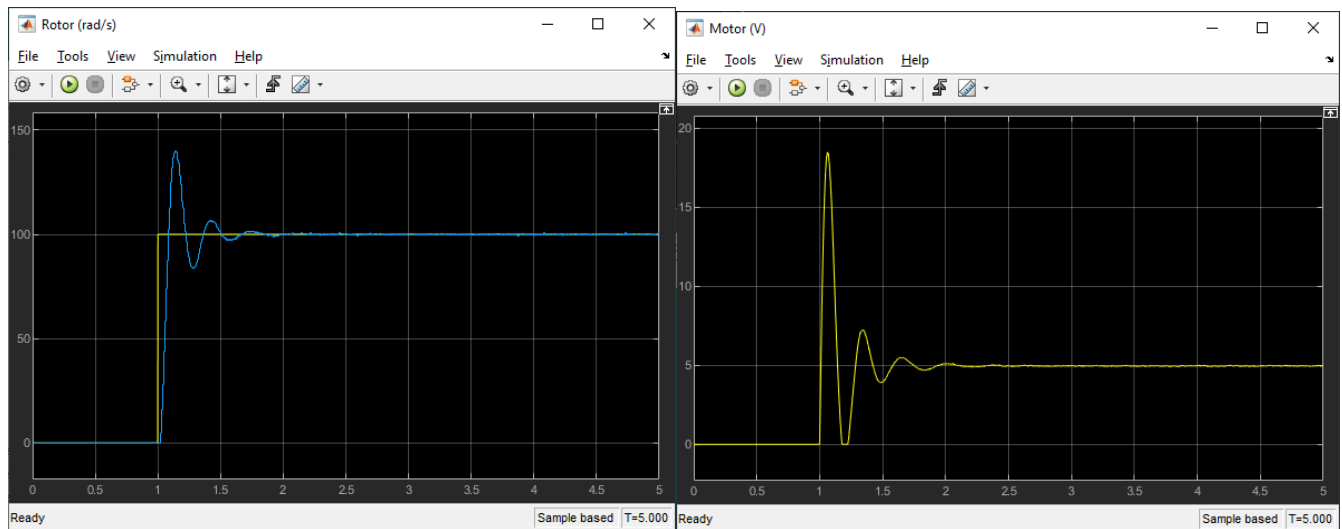

Figure 4 – Sample rotor PI speed control response on Aero 2 using  $k_p=0.1$  and  $k_i=5$
5. The response using the default PI gains  $k_p = 0.1 \text{ V}/(\text{rad/s})$  and  $k_i = 5 \text{ V}/\text{rad}$  is shown in Figure 4. Note that the response with the designed PI gains will be different.